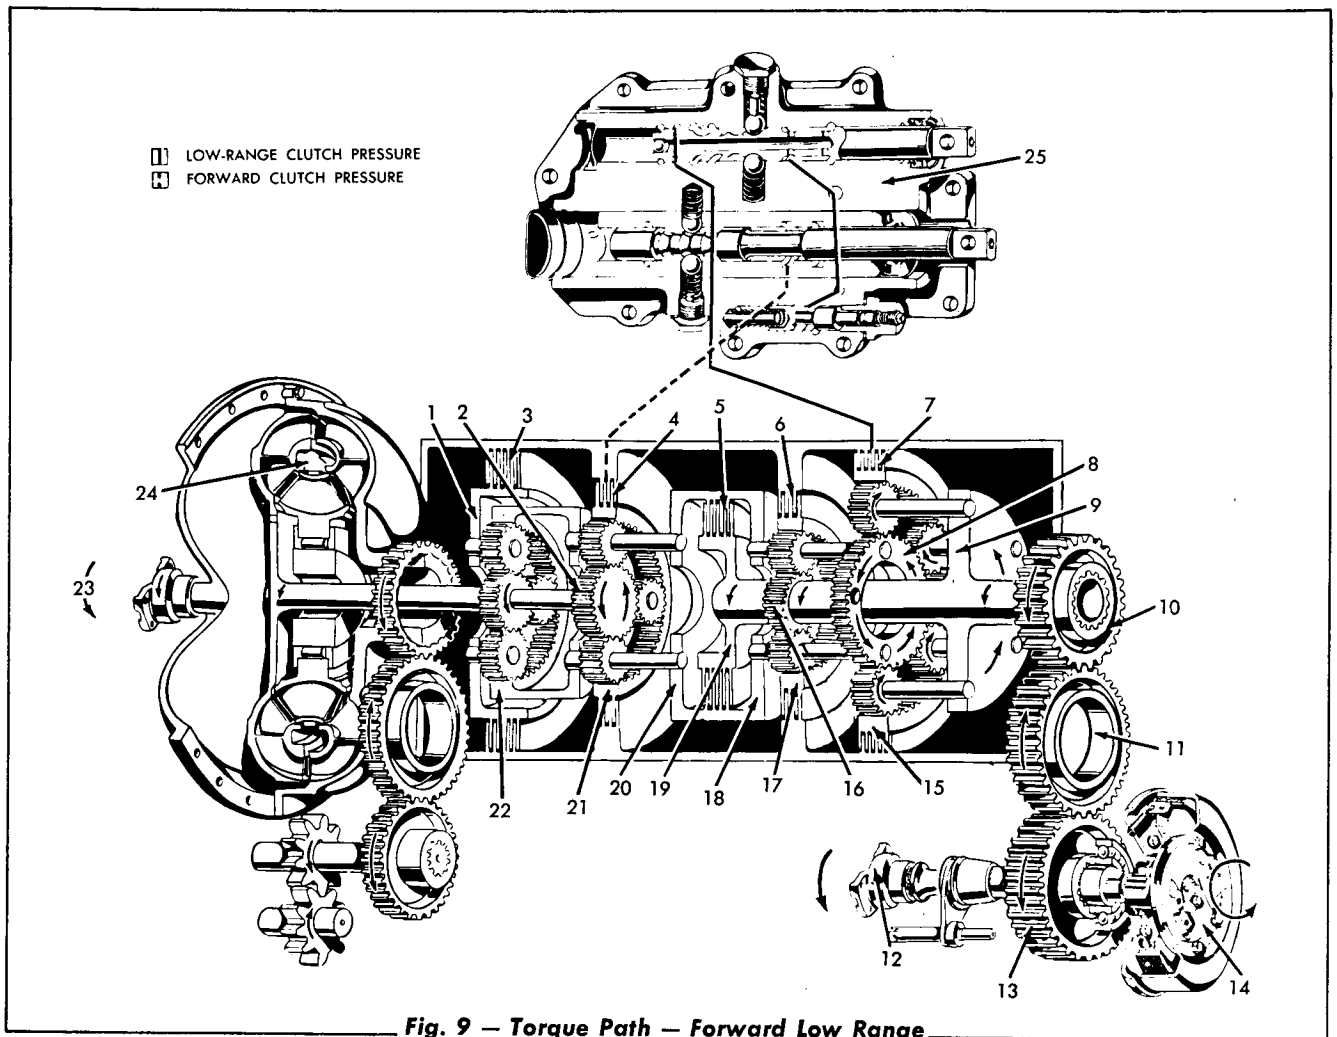

Fig. 9 — Torque Path — Forward Low Range
3. Low-Forward Range Torque Path (Fig. 9)